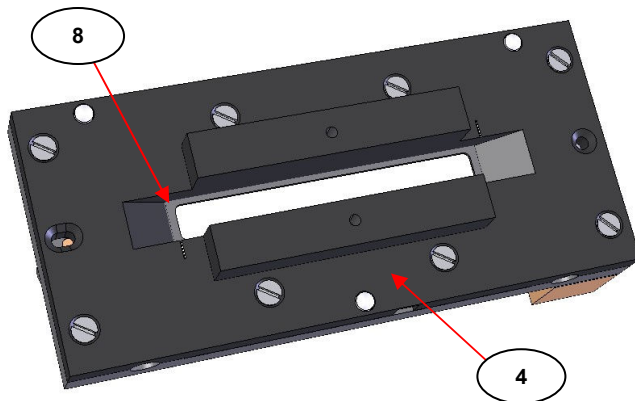

Fig 7. Kalrez Gasket Seal in the Gateway™ ATR Electrically Heated Trough Top Plate
When the ATR crystal (6) has been removed from the Top Plate assembly, access can be gained to the Kalrez gasket seal (8) for cleaning if necessary. (See Fig 7.)